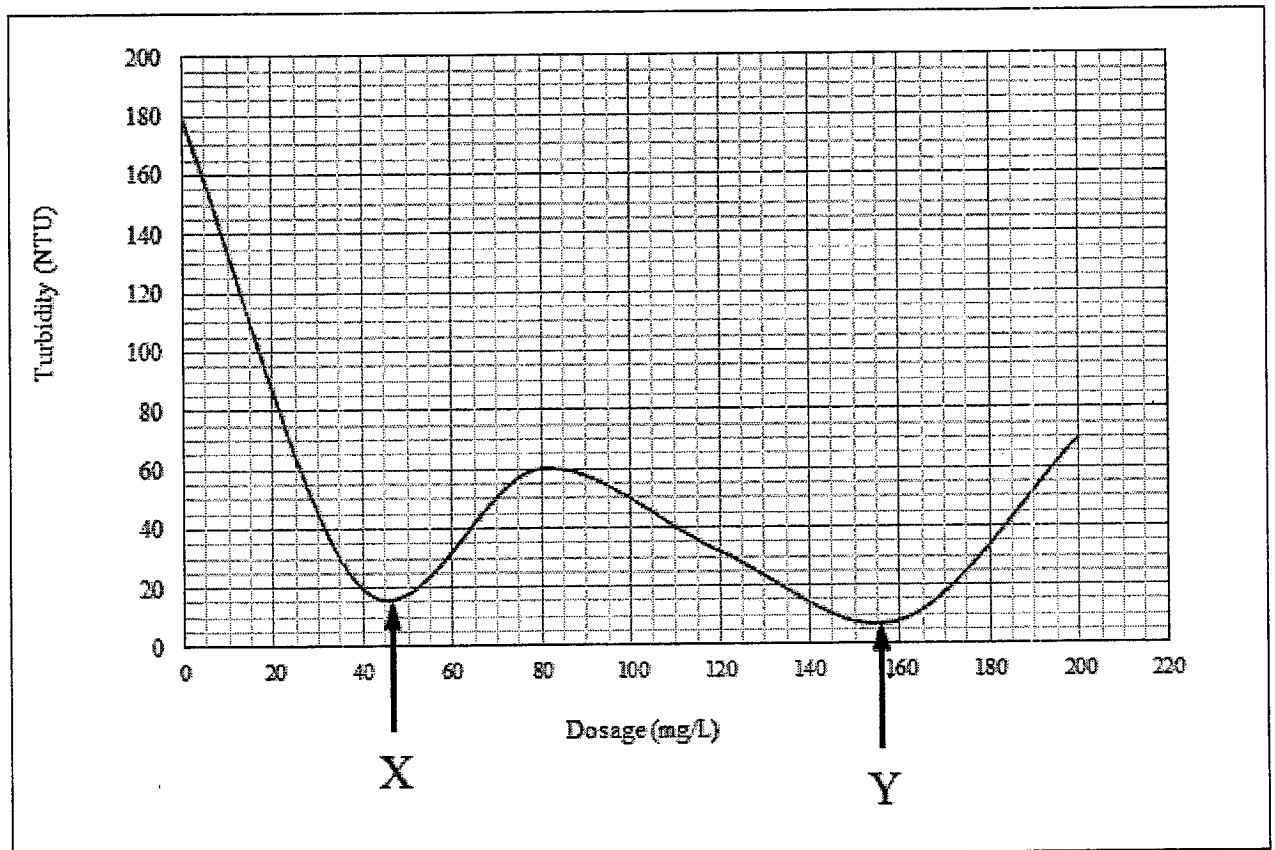

Figure 1: Jar Test results for the Kaseba Water Treatment Plant raw water
- c) Figure 1 below illustrates results of the Jar Test performed on raw water from the Kaseba Water Treatment Plant in Kafue.